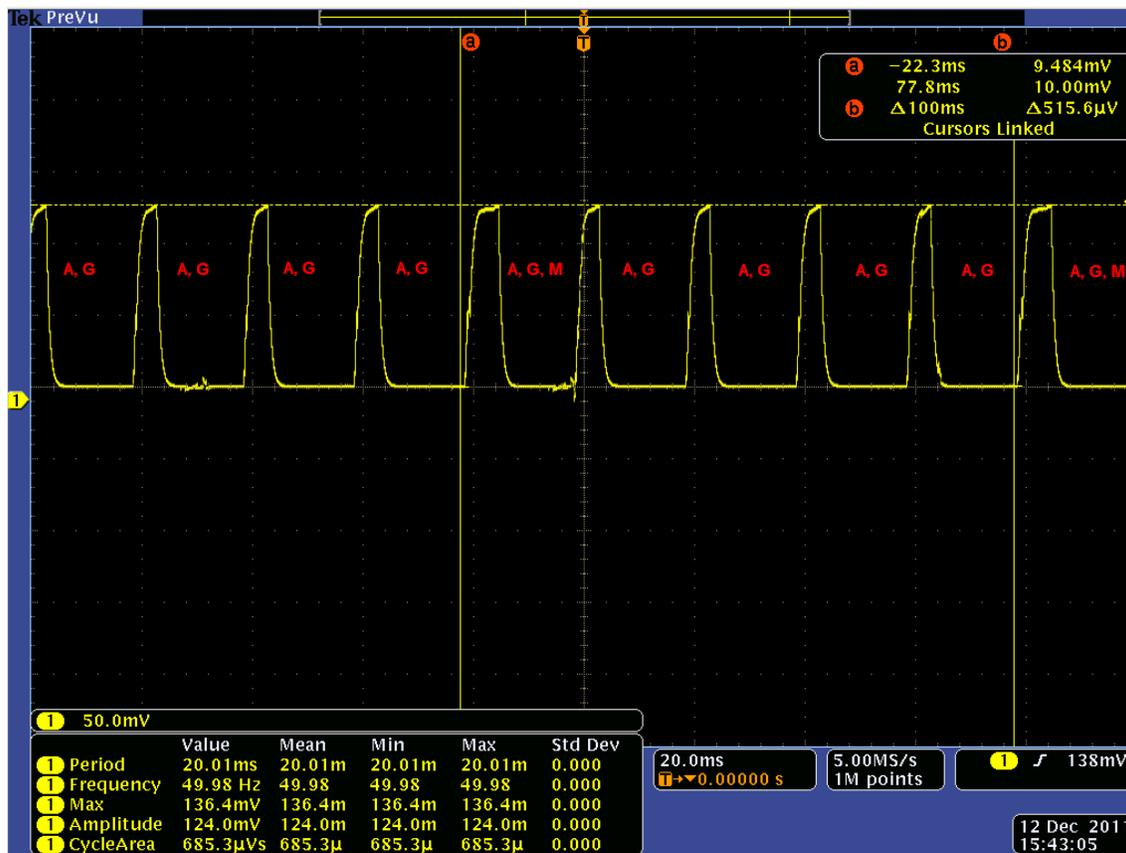

Figure 9. MSP430 Voltage Measurement
This section covers the power consumption of the sensor platform and the MSP430 requirements. The voltage across a shunt resistor (26.63Ω) connected to the V_{CC} of the MSP430F5xx can be seen in Figure 9. The voltage measurements were taken with the USB module disabled and low-power-mode 3 enabled when the MSP430F5xx was neither reading the sensors nor calculating the DCM algorithm. The MSP430F5xx consumes $\sim 5 \mu\text{A}$ in low-power-mode 3 and $\sim 5.6 \text{ mA}$ in active mode. The AHRS board requires being battery powered when the transmission of the Euler angles is via BLE. The cycle area of the voltage is $685.3 \mu\text{Vs}$, where each cycle is 20 ms. Therefore, the average voltage is $685.3 \mu\text{Vs} / 20\text{ms} = 34.265 \text{ mV}$. Using Equation 2, the average current consumption of the MSP430F5xx is $34.265 \text{ mV} / 26.63 \Omega \sim 1.28 \text{ mA}$.
Figure 9 shows the reading the motion sensors at different frequencies; the magnetometer (M) is read at a 10 Hz rate, while the accelerometer (A) and gyroscope (G) are read at 50 Hz. This figure shows the MSP430F5xx using ~30% of the CPU. The accuracy of the MSP430 AHRS board is TBD. Table 2 includes the current consumption measurements for the different ICs in the AHRS board.